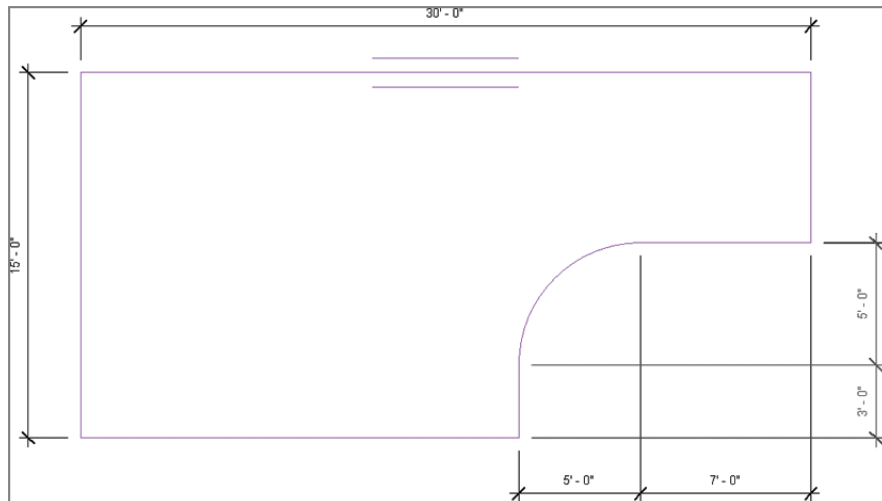

FIGURE 3.3 Modifying the floor sketch
2. Add additional sketch lines to generate the shape at the lower right in Figure 3.3. Don't forget to trim back any intersecting lines.